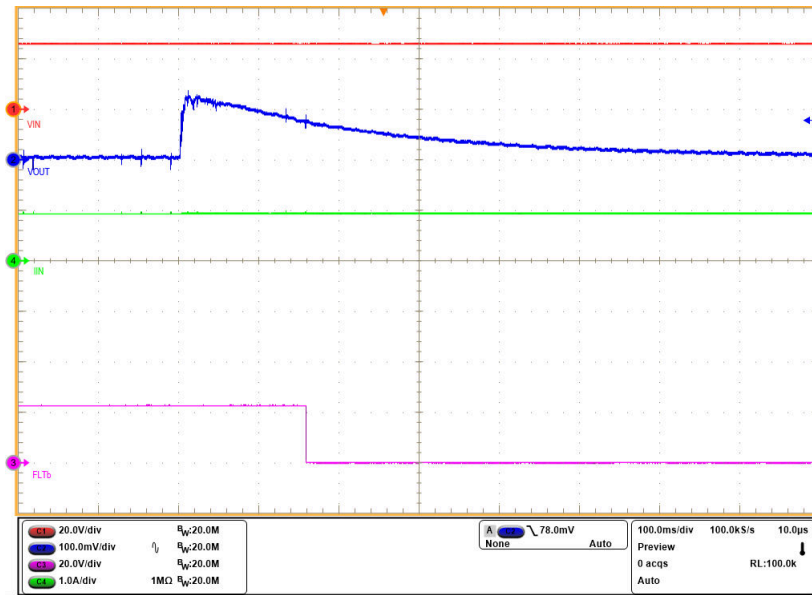

Figure 5-8. IN to OUT Short Response of the TPS1641 Device without External PFET
6. Observe the TPS16412 response. As seen in Figure 5-8, the FLTb asserts after 150 ms (typical) after IN-OUT short is detected. Note that the V_{OUT} is probed in AC coupling mode to observe the jump in the voltage for IN-OUT short.